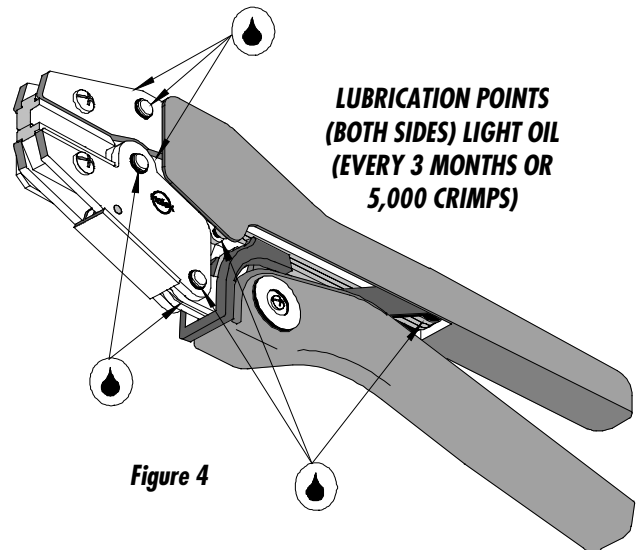

Figure 4
3. Make certain all pins; pivot points and bearing surfaces are protected with a thin coat of high quality machine oil. Do not oil excessively. The 64001-5200 (RHT-2749-CC) was engineered for durability, but like any fine piece of equipment it needs cleaning and lubrication for a maximum service life of trouble-free crimping. A light oil, such as 30 weight automotive oil used at the oil points shown in Figure 4, every 5,000 crimps or 3 months will significantly enhance the tool life and ensure a stable calibration.